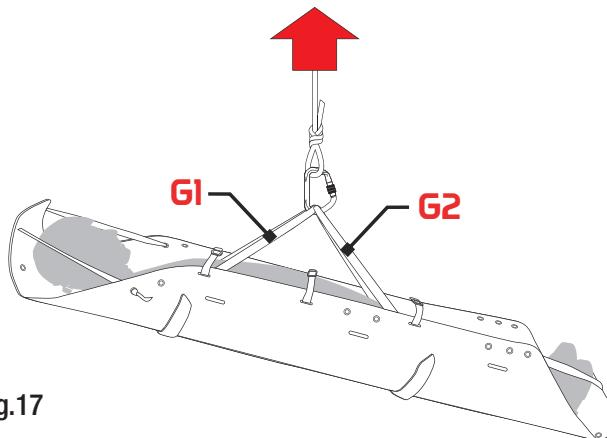

Fig.17
Lifting and lowering with rescue devices (fig. 17) with the hanging kit (G)	2100 kg
Hoisting and lowering with helicopters (fig. 17) with the hanging kit (G)	2100 kg
- **Lifting and lowering with rescue devices (fig. 17)**
- **Hoisting and lowering with helicopters (fig. 17)**